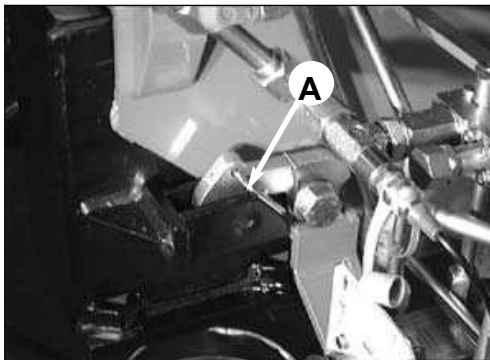
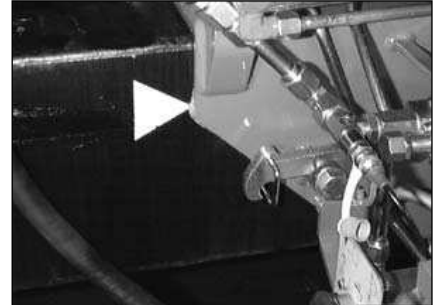

fig. 23
fig. 23b
- Disengage the locking devices of the outrigger supports by putting the levers **A** from the position of the fig. 23 to the one of the fig. 23a.
The complete extension of the outrigger supports is visually indicated by the yellow triangles which are found at the end of the beam. (Fig. 23b)
Under no circumstances put the hands on the locking devices of the outrigger supports; the device re-hook (lever **A** from position of fig. 23b to fig. 23) is automatic.
(!) Always check that the outriggers supports, once in their rest position, are locked in their seat by the safety devices, so as to assure the impossibility of accidental movement. (Fig. 23)